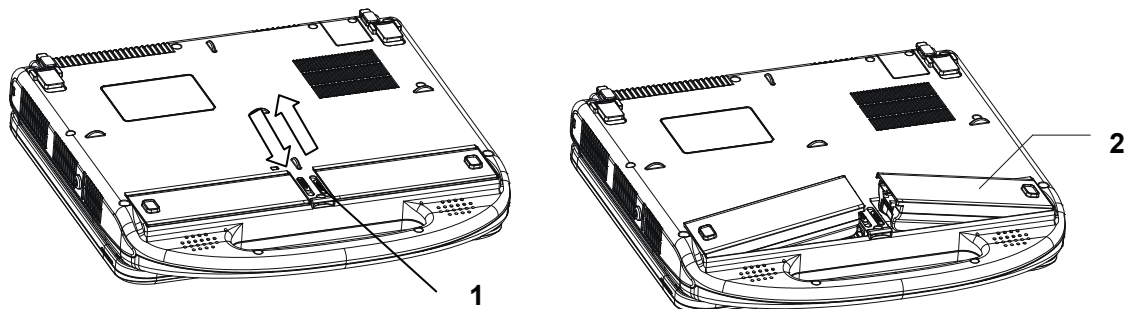

Figure 4-2 Removing Battery
- 1) As shown in Figure 4-2, push the battery buckle, and the battery pops up from the battery slot;